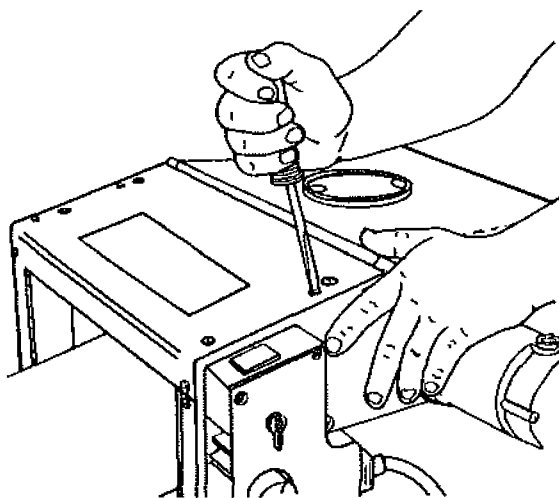

Fig. 79
2. Lift the thickness adjustment crank out of its mounting hole. Remove the infeed shield by the six screws that hold the infeed shield to the planer, as shown in Fig. 79.